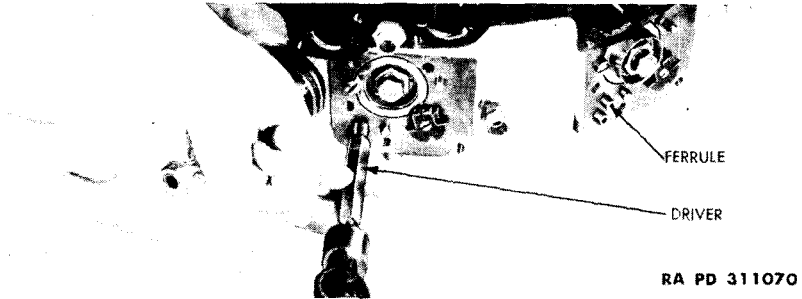

Figure 34 — Installing Crankcase Ferrule, Using Driver 5A2161
(4) **CRANKCASE FRONT SECTION.** New ferrules may be installed in fuel pump pads of crankcase front section with driver (5A2161) (fig. 34).